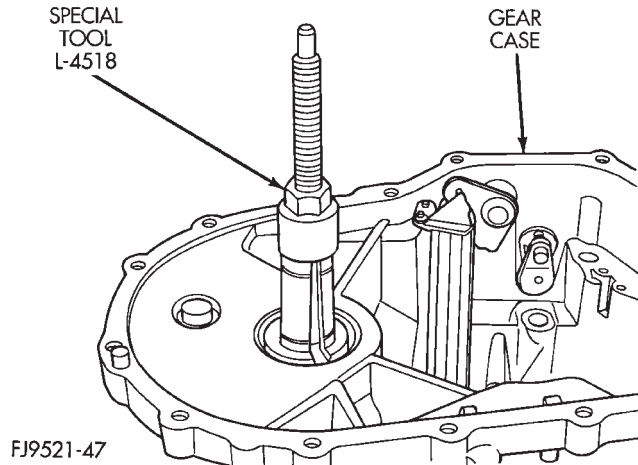

Fig. 140 Tool Installed in Bearing
(2) Install Miller tool #L-4518 into the differential bearing cup (Fig. 140).